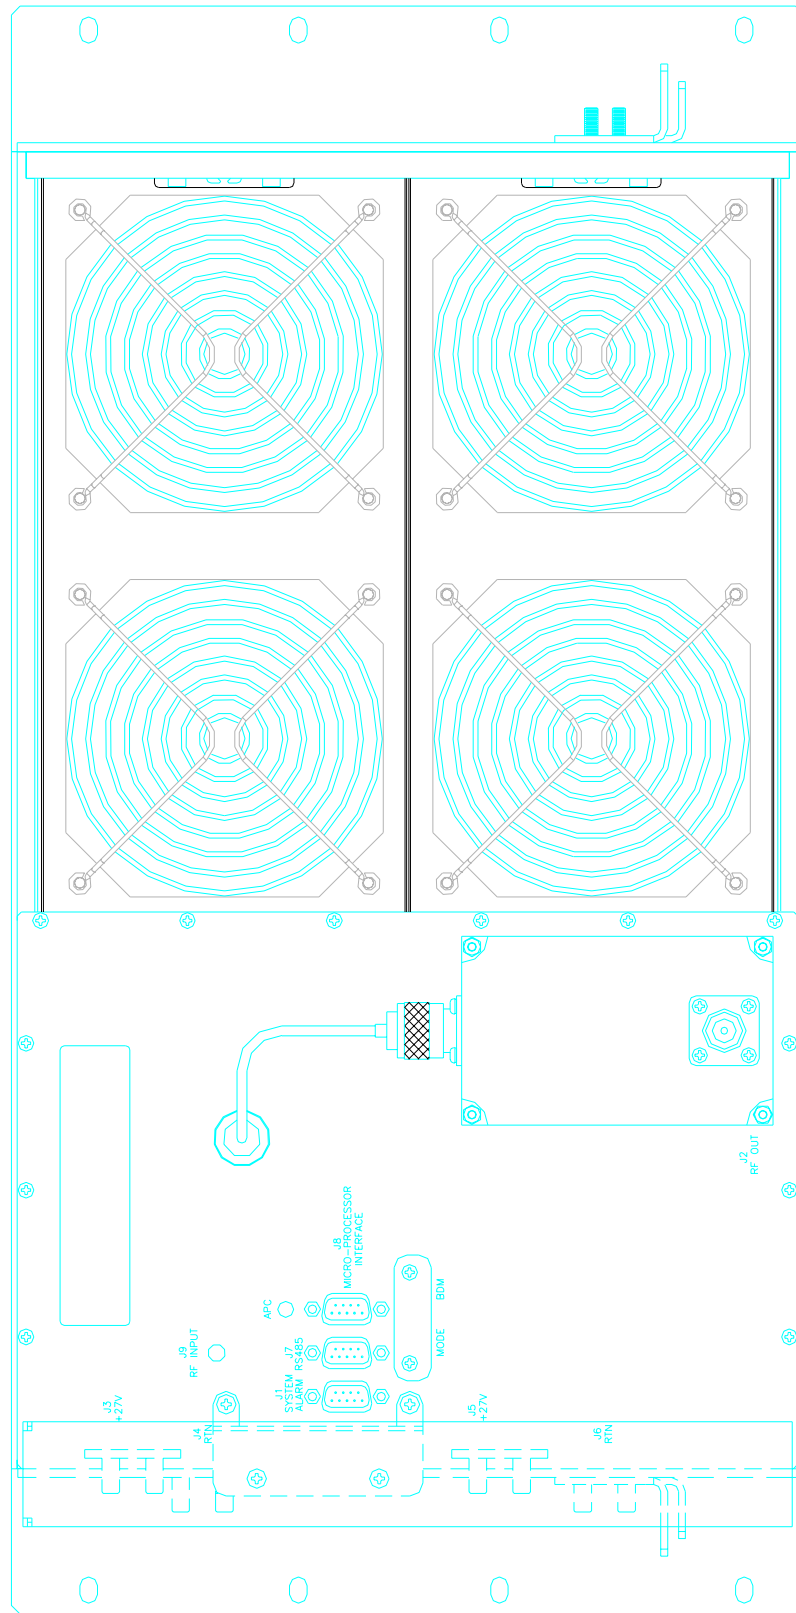
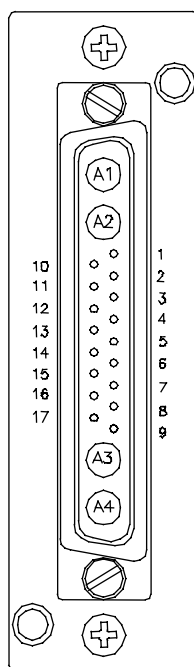

Figure 2-1. MCR20XX Series (NTL107AC)
Figure 2-5. DC and Logic Connector [on Rear of G3X-800 Series (NTL107AA) Amplifier Module]
The MCR20XX Series (NTL107AC) 23-inch subrack, which holds two amplifier modules, is designed for installation in a rack or cabinet that permits access to the rear of the amplifier system for connection of DC power, RF, and control and monitor cables. The location and function of the system interface connectors are shown in figures 2-1, 2-2, 2-3, and 2-4, and are described in tables 2-1, 2-2, 2-3, and 2-4. The plug-in amplifier module connectors are shown in figures 2-5 and 2-6, and are described in tables 2-5 and 2-6.
2. Refer to figure 2-1 for the location of all subrack input/output connectors.
Each amplifier in the subrack has a separate remote alarm and control connector which may be used by the host system to monitor and control the individual amplifier modules. The status, alarm, control, and power connections on the amplifier connector are made through a 21-pin male D-Sub combo connector (figure 2-5) and are listed and described in table 2-5.